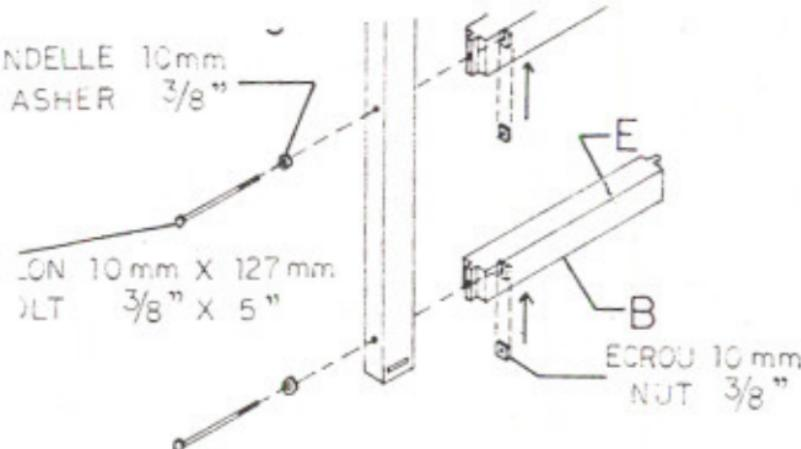

Fig. 2
c. [Fig. 2]
traverses. [Fig. 2]
tés d'écrous. [Fig. 2]
front post C. [Fig. 2]
[Fig. 2]